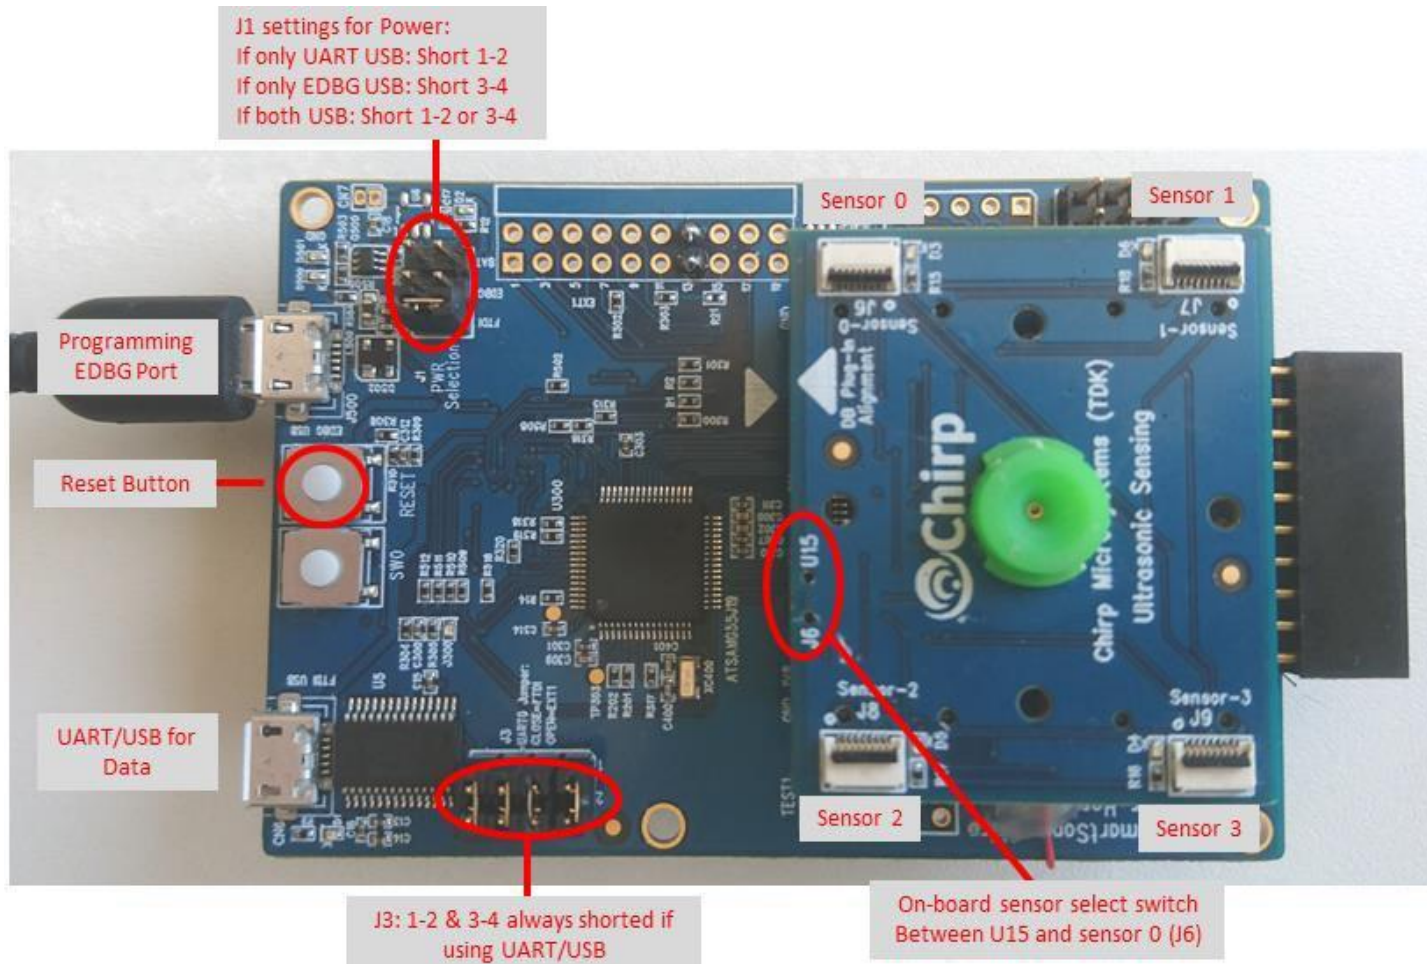

Figure 5. SmartSonic inputs, outputs, and header pins. Note: Horn design may differ from picture (green piece in picture).
8. Move the power jumper back to the first position to bridge the FTDI pins (as shown in Figure 5).